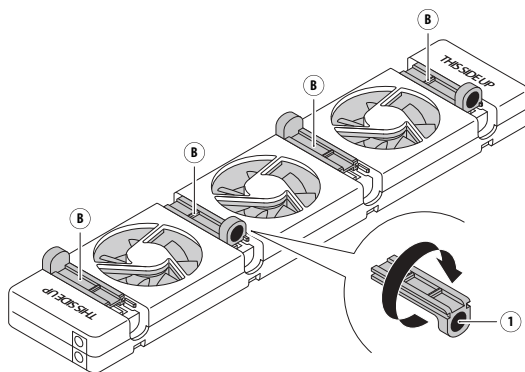

Fig. 5 - Return the adjustable magnets into the **SpeedComfort** (A).
1. Turn the **adjustable magnets** (B) until the **magnet** (1) is on top (see fig. 5). Remove the small block located opposite to the adjustable magnets in the housing. Please dispose of the block as plastic waste.
2. Adjust the **adjustable magnets** (B) to the correct width.
3. Repeat step 1 – 7 as for the wide radiator. Use the **adjustable magnets** (B) to hang the **SpeedComfort** (A) between the plates (see fig. 5 and 6). You can align the **SpeedComfort** on the front of the radiator.